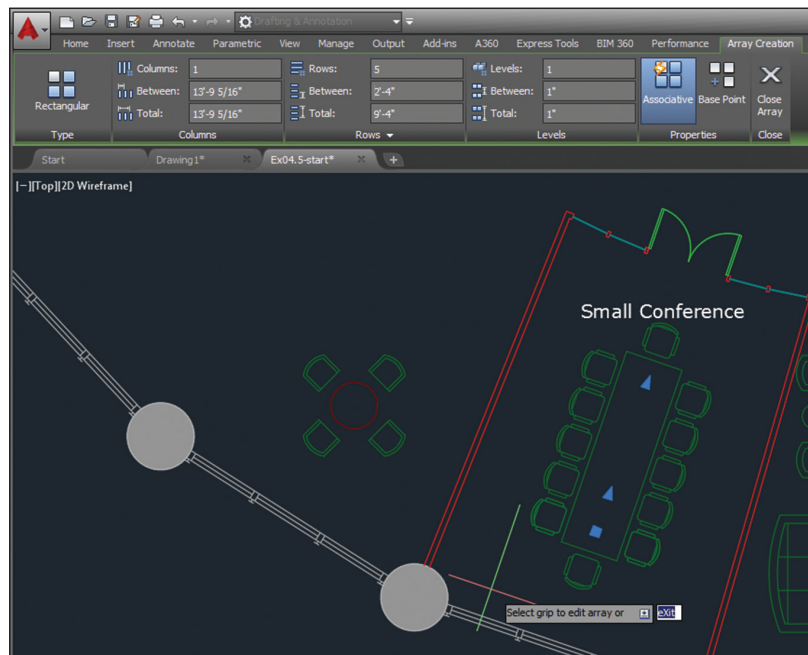

FIGURE 4.19 Creating a rectangular array by changing parameters on the ribbon
3. Change Columns to 1 and Rows to 5 on the temporary Array Creation tab that appears on the ribbon. Type `2'4"` (`72` for metric) in the Between text box in the Rows panel and press the `Tab` key (see Figure 4.19).